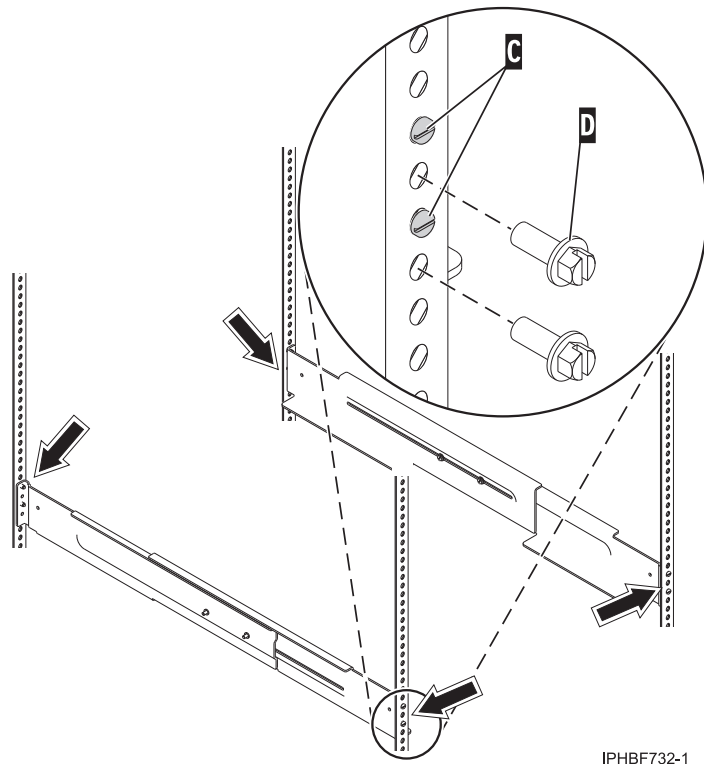

Figure 63. Attaching the system rails
7. Using two M5 screws (D), secure the right rail to the front of the rack.
8. Moving to the back of the rack and using two M5 screws (D), secure the left rail to the back of the rack.
9. Using two M5 screws (D), secure the right rail to the back of the rack.
10. Tighten the two screws in the middle of the left rail and the two screws in the middle of the right rail. Refer to Figure 63.